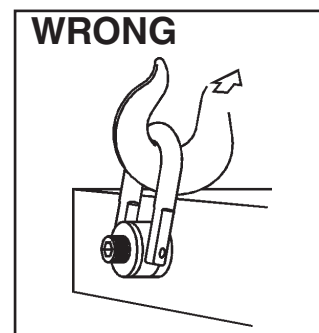

Figure 2
- Apply partial load and check proper rotation and alignment. There should be no interference between load (work piece) and hoist ring bail (Fig. 2).
1. **ASTM A-563 (A)** Grade D Hex Thick